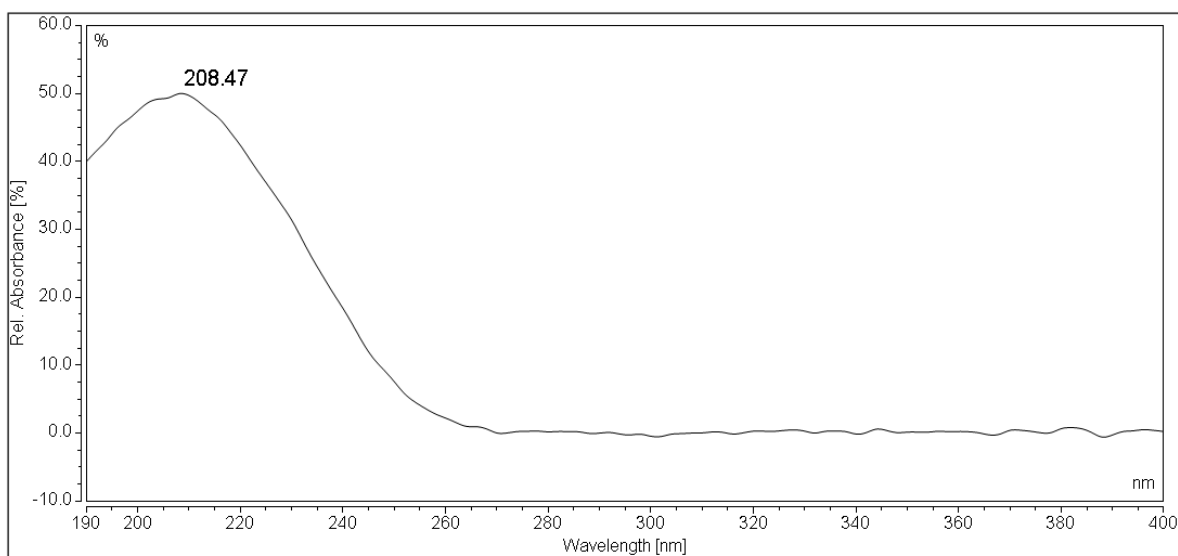

Fig. 1 UV-Spectrum of 1*R*-trans-permethric acid anhydride
2.2 UV spectroscopy. Record the UV spectrum during the HPLC determination. The UV spectrum obtained from the sample and reference item should not differ significantly. (Fig. 1)